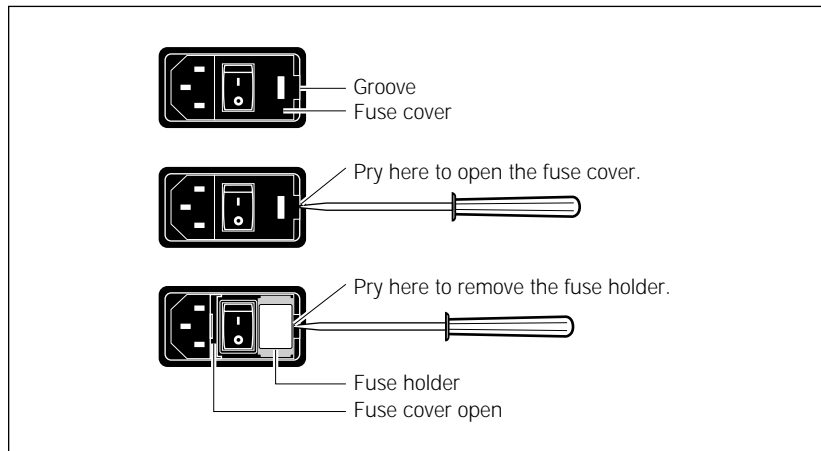

Figure 10-2. Opening the fuse box.
3. Place the end of the small flathead screwdriver into the groove and pry open the fuse box (figure 10-2).